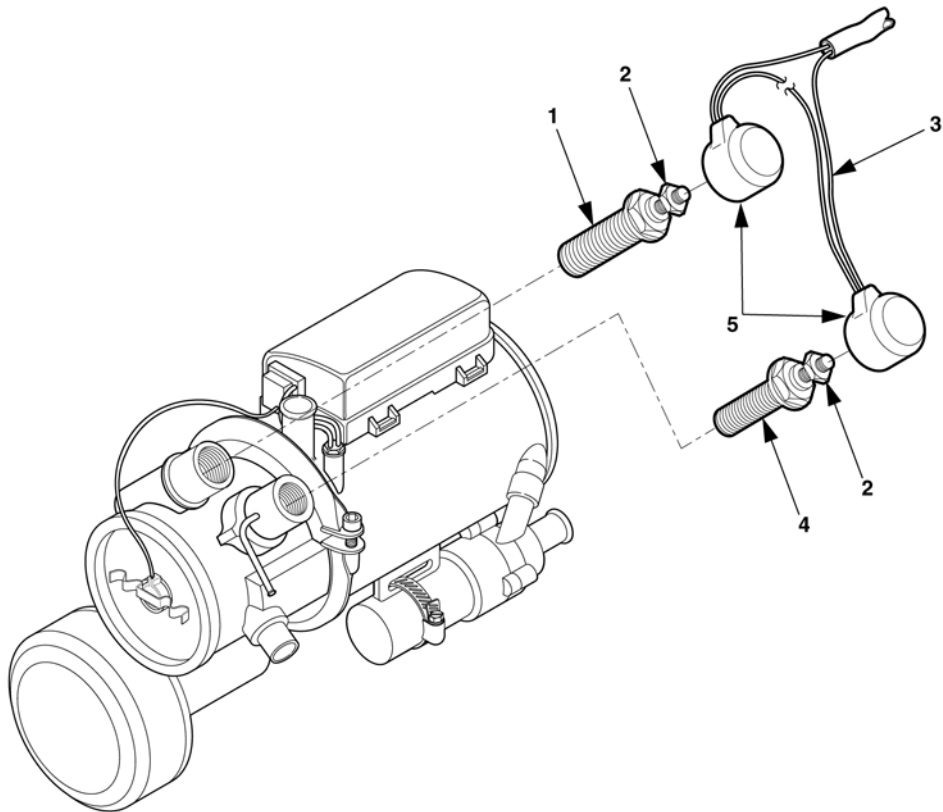

Figure 4-28. Ignitor/Glow Plug And Resistor Maintenance.
2. Remove caps (5), Figure 4-28, from ignitor/glow plug (4) and resistor (1). Loosen hex nuts (2) on ignitor/glow plug (4) and resistor (1). Remove cable (3).
3. Unscrew ignitor/glow plug (4) or resistor (1), as required, and remove it. Use an angled hook to clean the ignitor/glow plug hole.
4. Install ignitor/glow plug (4) or resistor (1).
5. Install plug cable (3), hex nuts (2), and caps (5).